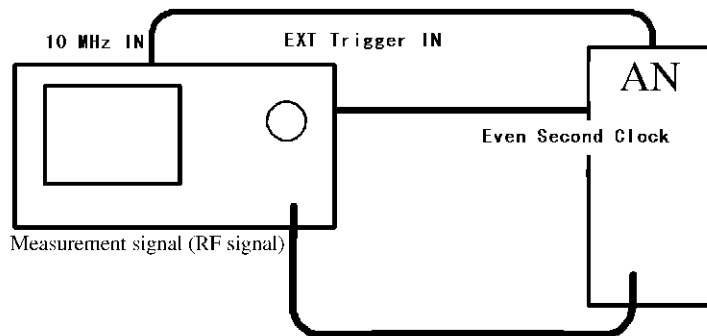

Figure 2-17 Connection for Total Power Measurements of the Access Network Signals
1. Connect the equipment as shown in Figure 2-17.